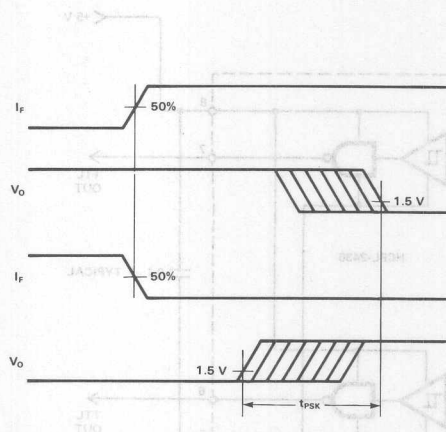

Figure 11. Illustration of Propagation Delay Skew —  $t_{PSK}$ .
- The typical data shown is indicative of what can be expected using the application circuit in Figure 11.
ature). As illustrated in Figure 11, if the inputs of a group of optocouplers are switched either ON or OFF at the same time,  $t_{PSK}$  is the difference between the shortest propagation delay, either  $t_{PLH}$  or  $t_{PHL}$ , and the longest propagation delay, either  $t_{PLH}$  or  $t_{PHL}$ .